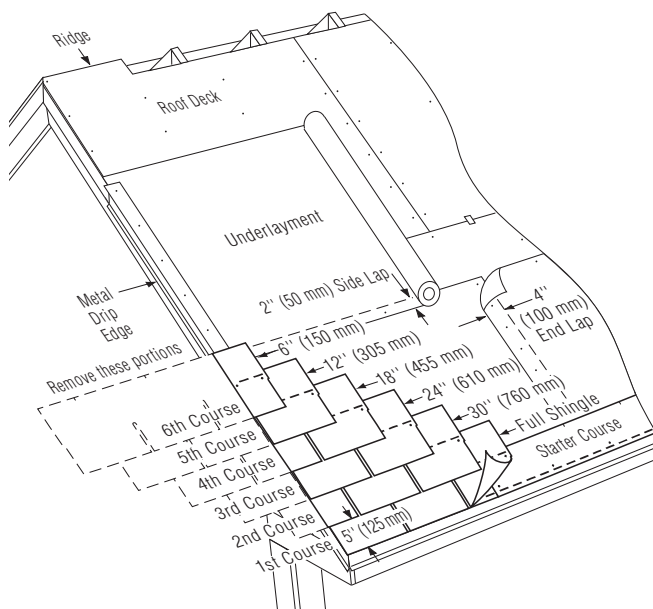

Figure 10-8: Applying the first 6 courses on a standard slope.
1ST COURSE: Apply a full shingle at the lower left corner of the roof. Make tabs lie flush with the edges of the starter course. In this way, sealant on the starter strip will adhere to the first-course tabs and help keep them from lifting in high winds (Figure 10-8).
1. Cut 6" off the left side of a shingle and install this 30" piece over and above the first-course shingle, in line with the left edge of the starter course. Leave the 5" tabs of the first-course shingle exposed (*Figure 10-8*).
2. Cut 12" off the first shingle of the third course, 18" off the first shingle of the fourth course, 24" off the first shingle on the fifth course, and 30" off the first shingle of the sixth course. Apply each with its left edge in line with the previous course (*Figure 10-8*).